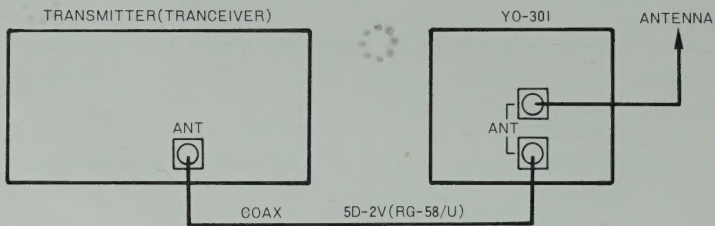

Figure 2
- (1) Connect the RF output of the transmitter (transceiver) or linear amplifier to either coaxial connector marked ANTENNA on the rear of the monitorscope. Connect the dummy load or antenna to the other coaxial connector marked ANTENNA. Refer to Figure 2.